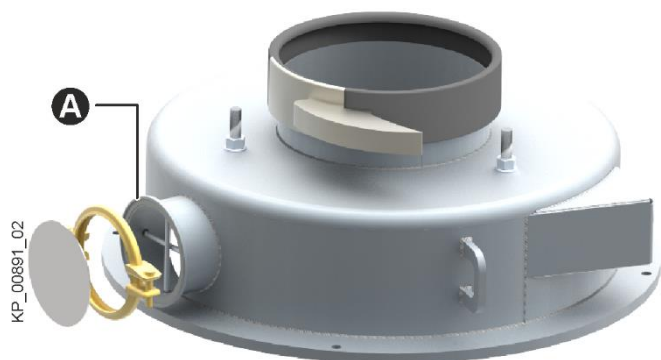

Fig. 28: Dust hood
- Remove the cover (Fig. 28/A) depending on the design.